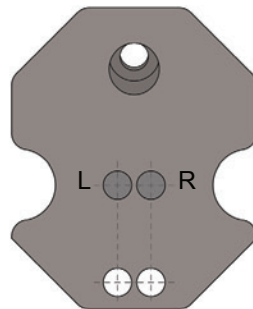

fig. D.13
- Attach the air spring assembly to the upper mount with the M10-1.5 x 25 hex cap screw (M). Torque to 27Nm (20 lb.-ft.). The pre-installed M10-1.5 x 35 stainless steel set screw (F) fits into the forward of the two alignment holes on the underside of the upper bracket (K) (Figs. D.13 & D.14). Insert the M8-1.25 x 25 hex bolt (B) into the lower mount. This bolt will attach to the lower control arm.